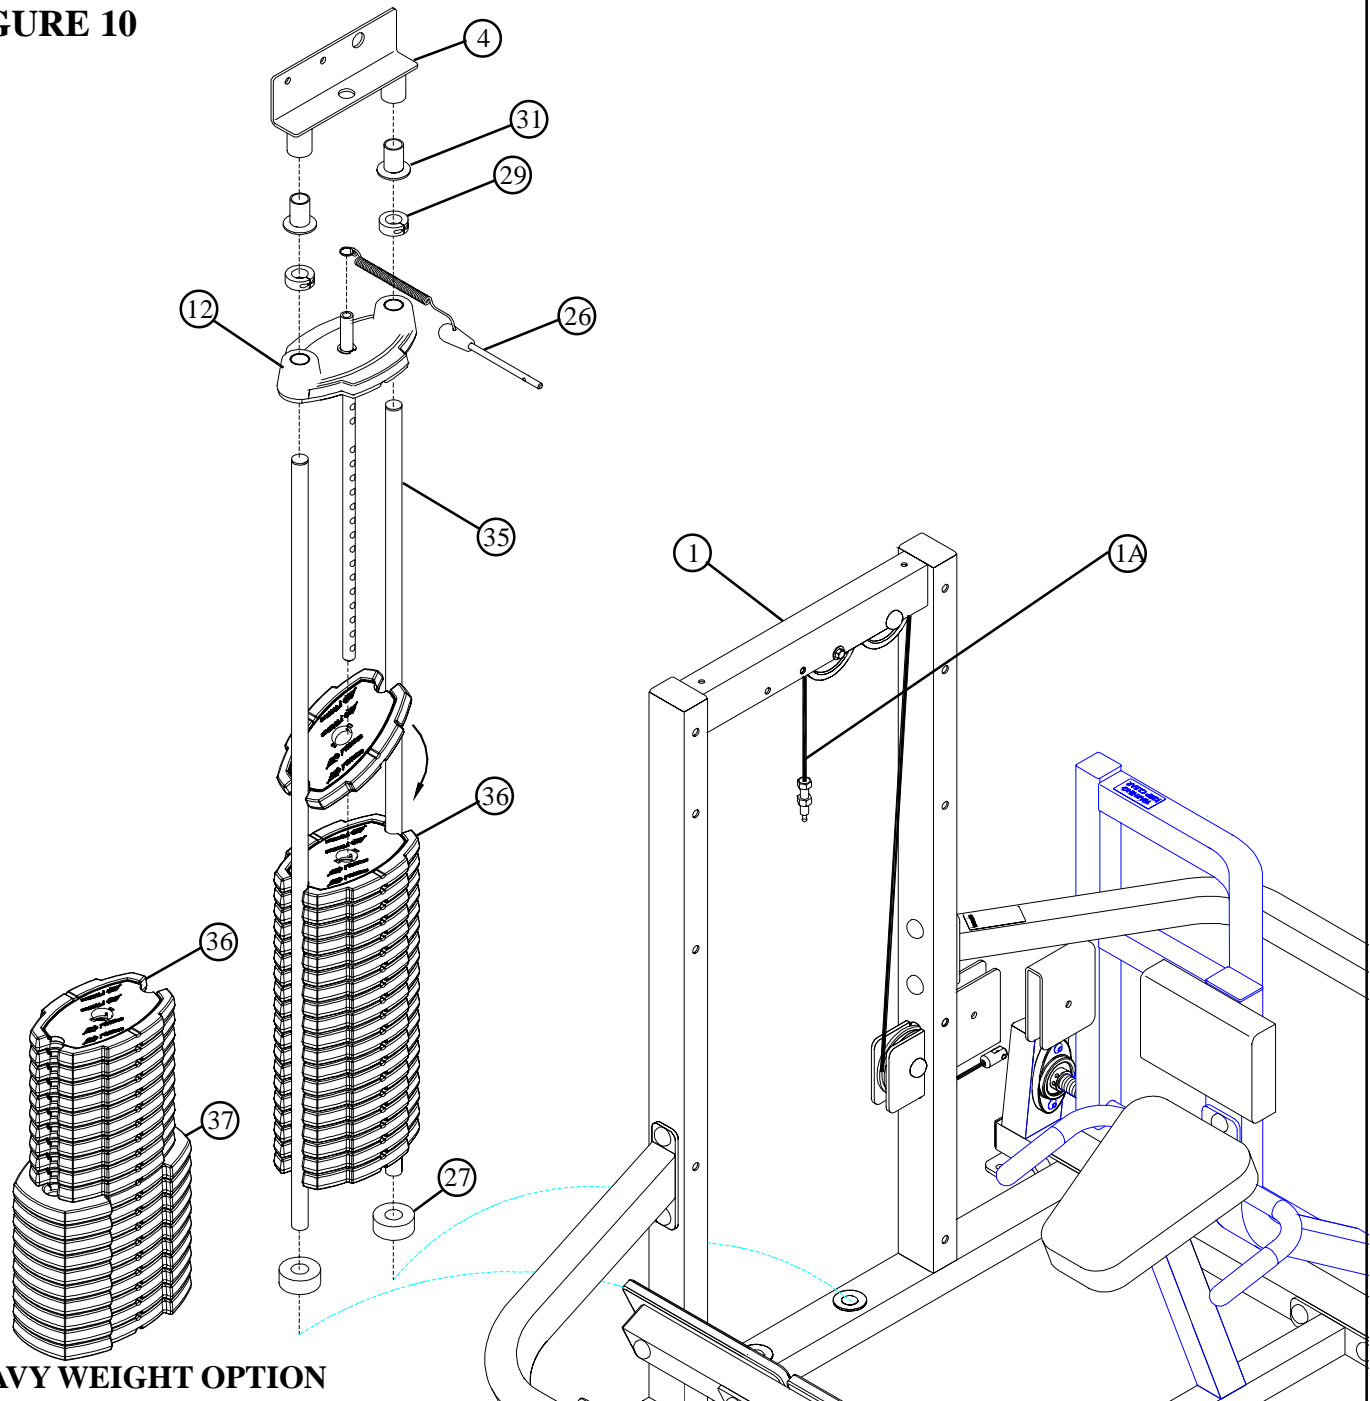

**FIGURE 11**
- **SECURELY** assemble the SEAT PAD (41) to the HANDLES (3) using two RH CAPS (28), two 3/8 X 2-3/4" BOLTS (15) and two 3/8" RH WASHERS (23) as shown in FIGURE 11.